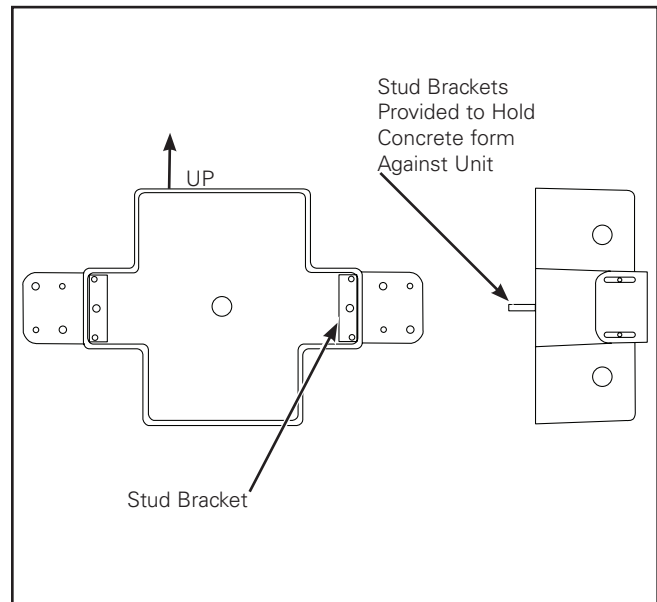

Figure 2. Box / Stud Bracket
1. If walls are not pre-existing, the recessed box may be mounted within forms before the concrete is poured. Form-mount brackets and a debris cover are provided to aid in keeping debris from entering box during the pouring of concrete. Install (2) stud brackets provided with #8-32 screws. Paneling can be mounted over bolts on brackets and secured with hex nuts provided (Figure 2.).